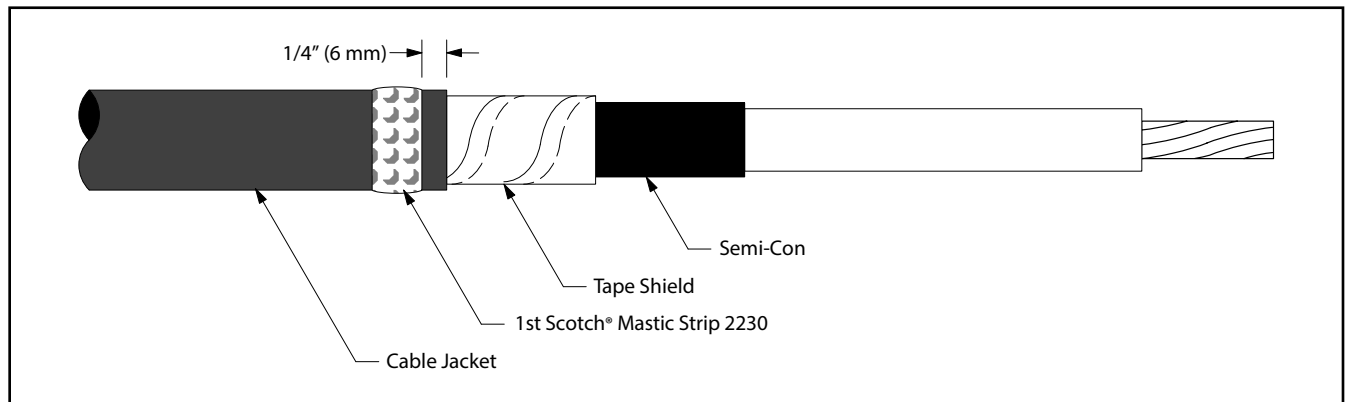

Figure 2
- 3.1 Select a Scotch® Mastic Strip 2230 from kit and remove white release liners. Using light tension, apply a **SINGLE WRAP** of mastic around the cable jacket 1/4" (6 mm) from cut edge (Figure 2). Cut off excess.